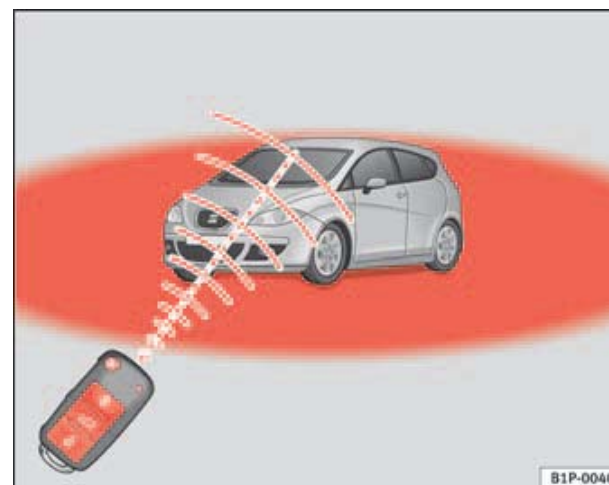

Fig. 64 Range of the remote control
- The remote control functions only when you are in range ⇒ page 100, fig. 64 (red area).
- If the vehicle is unlocked using the  ① button, the vehicle will be locked again automatically if any of the doors or the tailgate are not opened within 30 seconds of unlocking the vehicle. This function prevents the vehicle from remaining unlocked if the unlocking button is pressed by mistake.